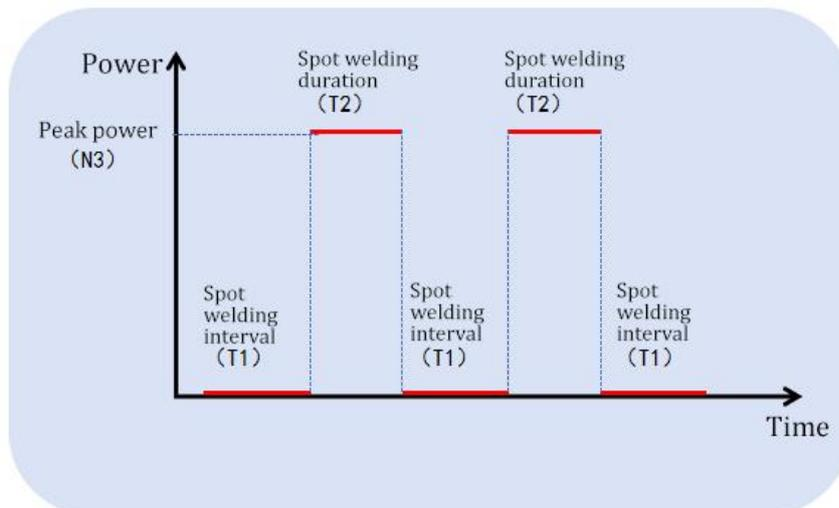

Figure 4.9 Spot welding power time relationship
- ⑧ [temperature threshold]: Maximum 80°C, the value is set to 0, do not detect the temperature alarm.
- ⑨ [alarm level - high / low]: set to low level when not in use, according to the external product settings.
- ⑩ [Spot Welding type - Intermittent / Fish Scale / Single Shot]: [Fish Scale] is suitable for fish scale welding, [Intermittent] is suitable for segmental welding. Single-shot] applies to continuous welding for a short period of time. When [Single Shot] is selected, set the [Spot Welding Duration] to stop the light when the welding is completed, and you need to pull the trigger again to light up again.
- ⑪ [Spot Welding Duration][Spot Welding Interval]: As shown in Fig. 4.9, [T1] does not emit light, [T2] emits light.